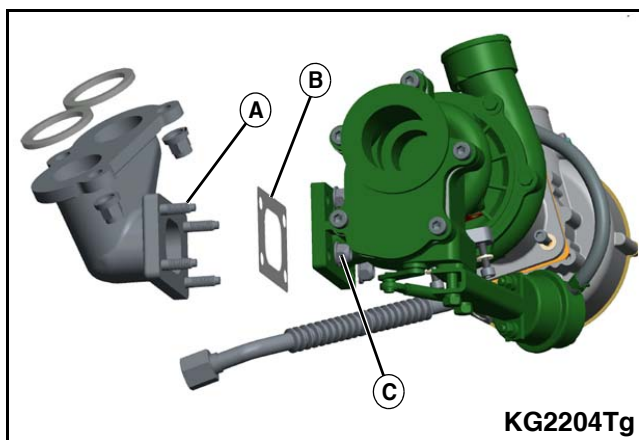

Figure 3-49
1. Remove the existing exhaust studs and install four new studs (A) into the exhaust flange adapter. Tighten to $20 \pm 3 \text{ N}\cdot\text{m}$ ($14.8 \pm 2 \text{ ft}\cdot\text{lb.}$). Install the new exhaust flange adapter gasket (B). Install the turbocharger onto the exhaust flange adapter. Assemble four new nuts (C) onto exhaust flange adapter studs and tighten to $28 \pm 3 \text{ N}\cdot\text{m}$ ($21 \pm 2 \text{ ft}\cdot\text{lb.}$). **See Figure 3-49.**